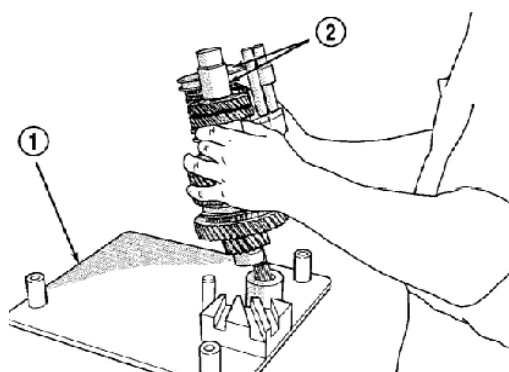

Figure 3-59 Disassembly of gearing
(24) Remove input shaft assembly and output shaft assembly from the plate jig (Figure 3-59).